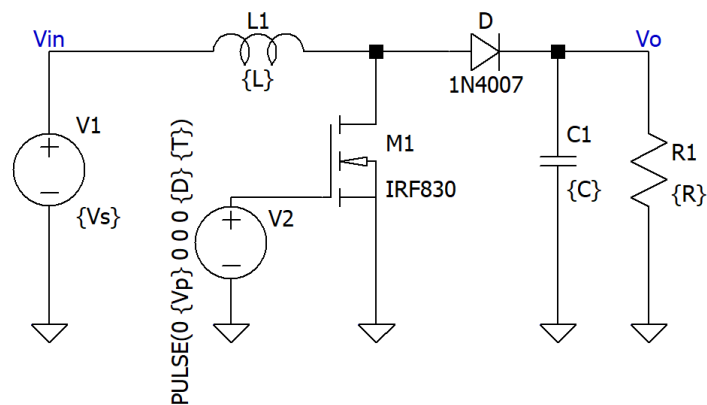

Figure 6.2 Boost Converter
1. Connect the circuit as shown in Figure 6.2.